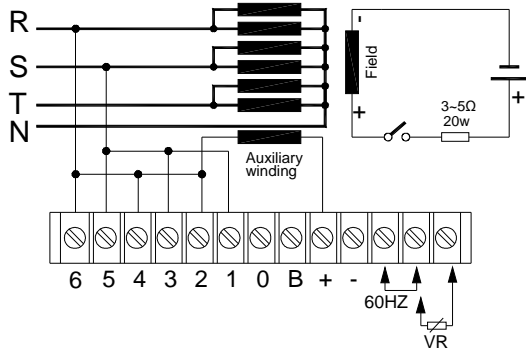

Figure 2 Field Flashing
- Total of 3 sets of independent sensing inputs, each input voltage equals to 220V (Center), can be series into Y or  $\Delta$  to connect to the generator output (3 Phases) for example R-T, S-T, R-T, or joint connected into a single phase sensing (See Figure 2 to 13).
## 4.3 Field Flashing (See Figure 2)